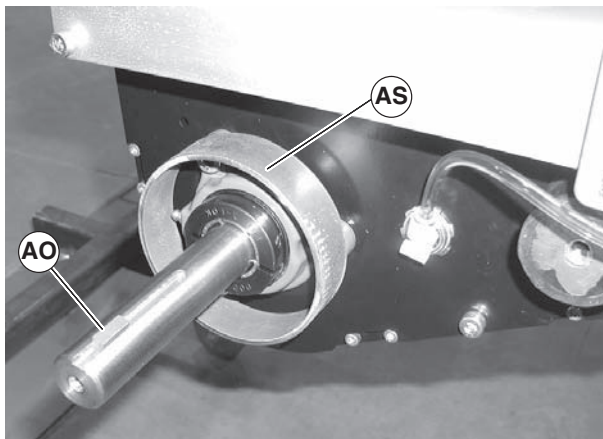

Figure 97
4. Remove spacer ring (Figure 97, item AS) and key (AO).